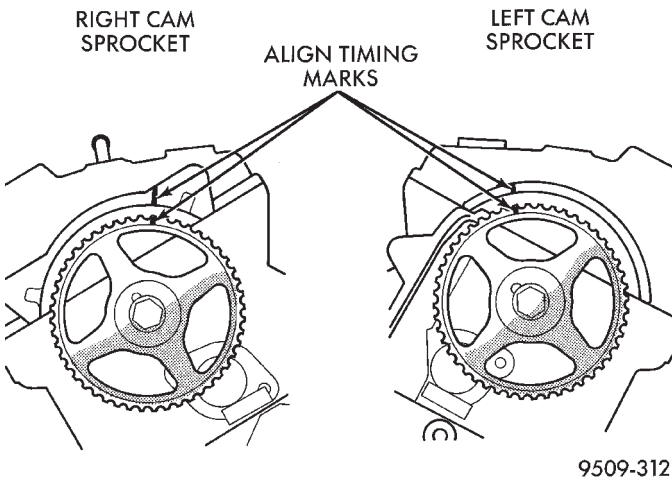

Fig. 56 Camshaft Sprocket Timing
(2) Set camshaft sprockets to the aligning marks on the sprockets with the marks on the rear timing belt cover (Fig. 56).